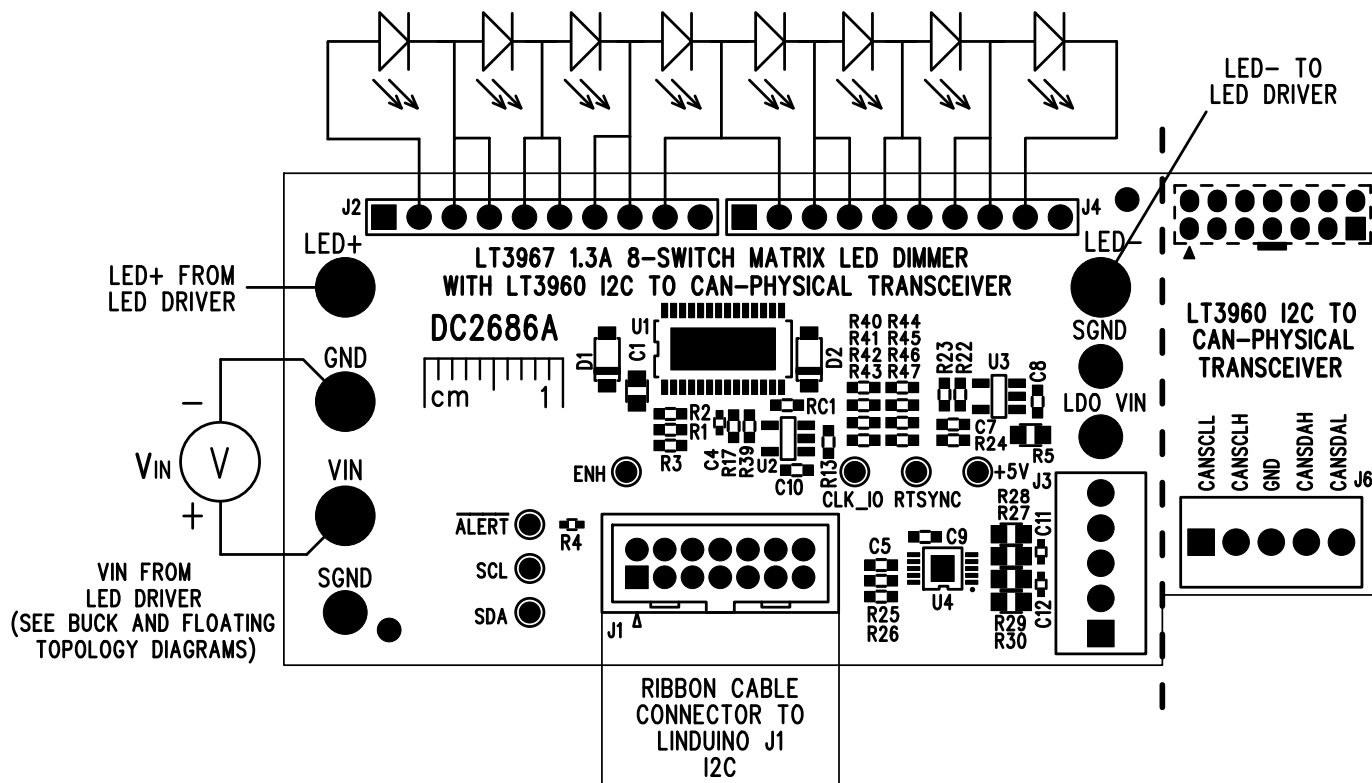
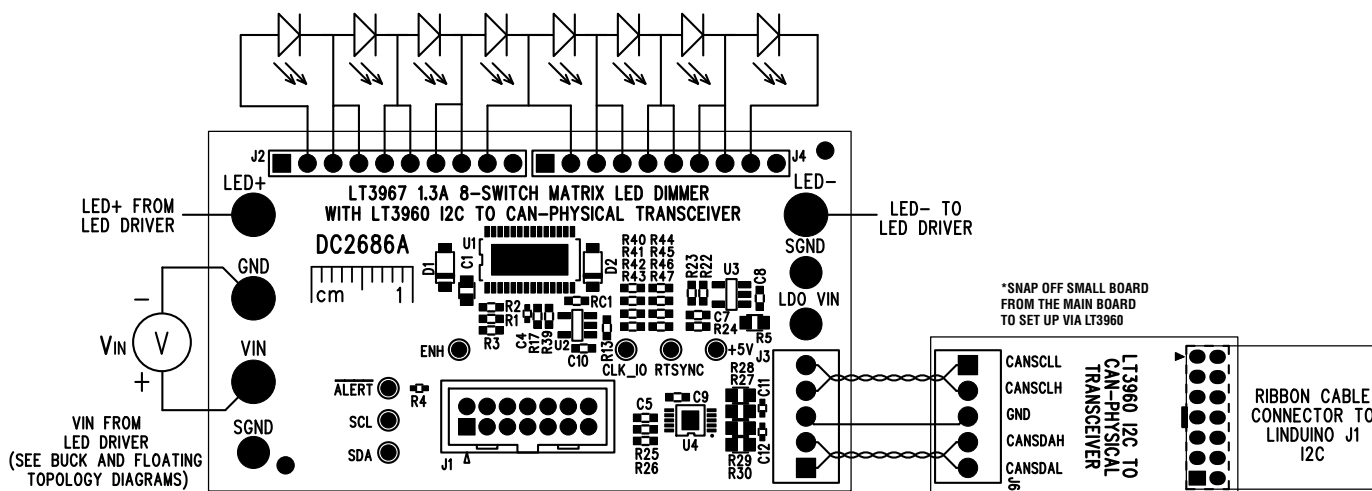

Figure 1. Quick-Start Procedure Setup Drawing for DC2686A (without LT3960)
Figure 2. Quick Start Procedure Setup Drawing for DC2686A (with LT3960)
7. Connect 8 LEDs as shown in Figure 1 and Figure 2.
8. Connect Linduino to DC2686A using one of the two methods shown in Figure 1 and Figure 2.